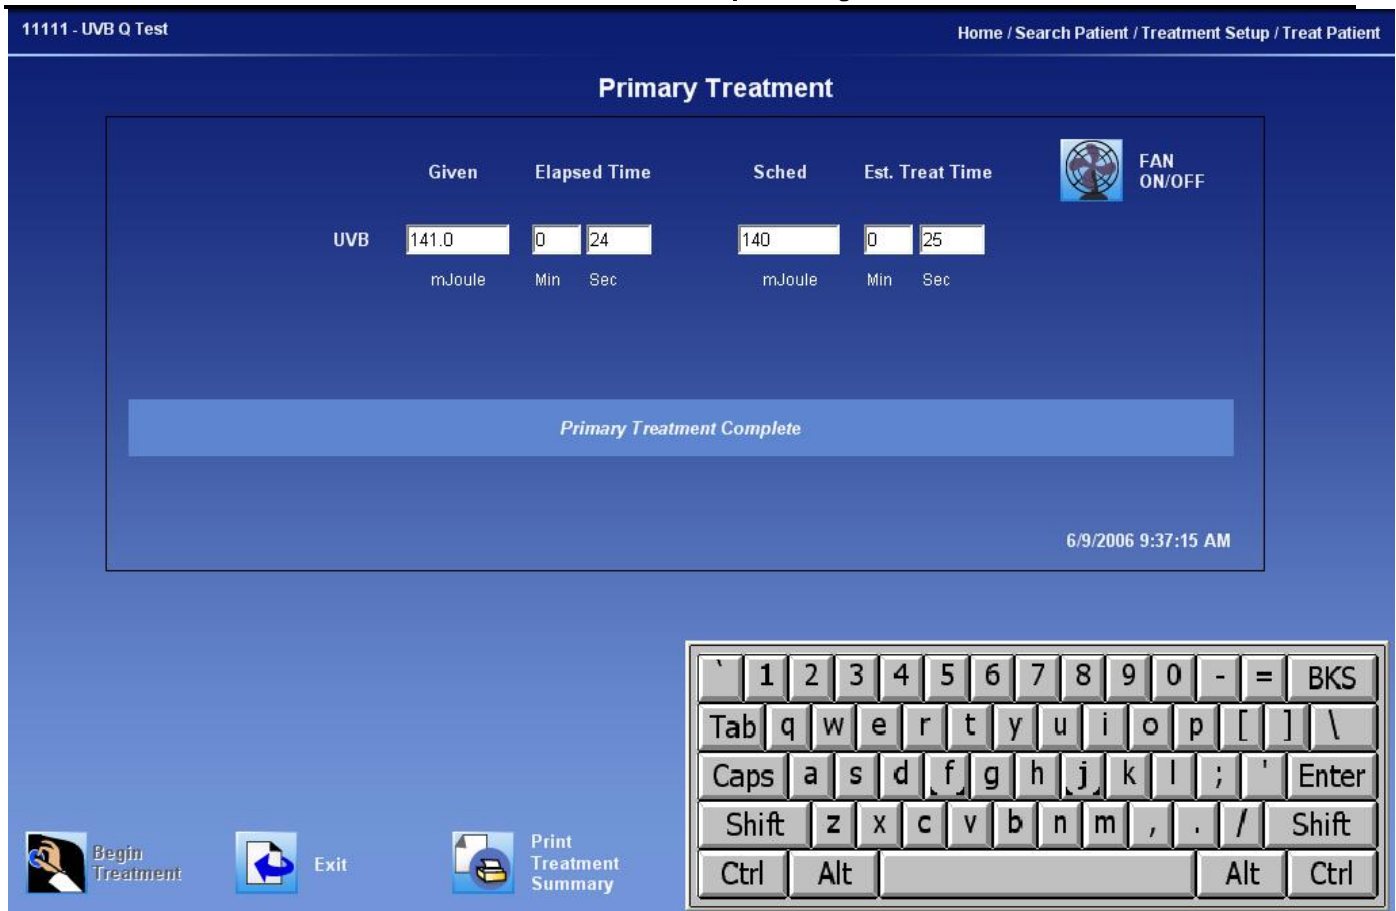

Figure 19 – Treatment Complete Screen
7. During treatment, the scheduled dose (**Sched**) and the estimated treatment duration (**Est. Treat Time**) are shown on the right side of the display and the accumulated dose (**Given**) and elapsed treatment time (**Elapsed time**) is shown on the left side of the display. When the treatment is complete, the lamps will turn off and the Treatment Complete screen will appear (See **Figure 19 – Treatment Complete Screen**).